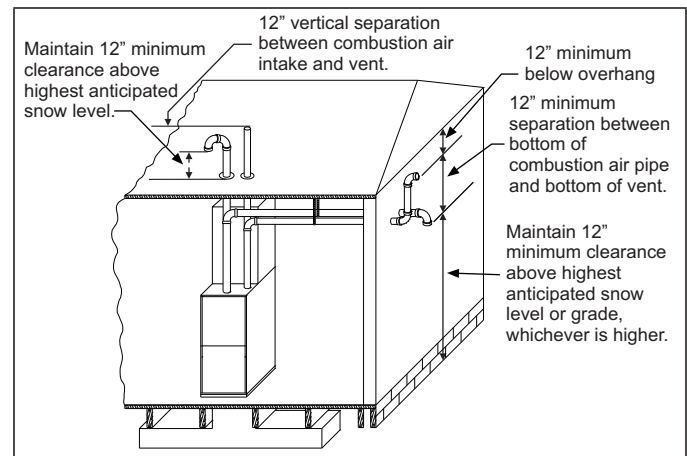
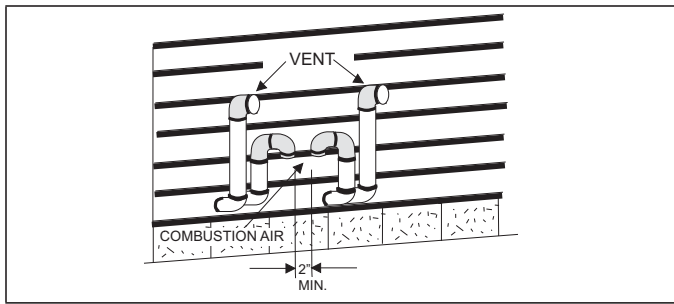

FIGURE 31: Termination Configuration - 2 Pipe
FIGURE 33: Double Horizontal Combustion Air Intake and Vent Termination
7. Direct vent systems must be installed so the vent and the combustion air pipes terminate in the same atmospheric zone. Refer to Figures 31 or 32.
The combustion air side of the two-pipe configuration shown in Figures 31 and 32 can be installed so the combustion air pipe terminates as described in outdoor combustion air or ventilated combustion air sections in these instructions. Follow the instructions for outdoor combustion air or ventilated combustion air and the instructions for installing the vent system with the vent terminating as shown in Figure 33 or 34. The two-pipe system must have a separate combustion air pipe and a separate vent pipe for each furnace. Under NO circumstances can the two combustion air or vent pipes be tied together. The combustion air and vent pipes must terminate in the same atmospheric zone.